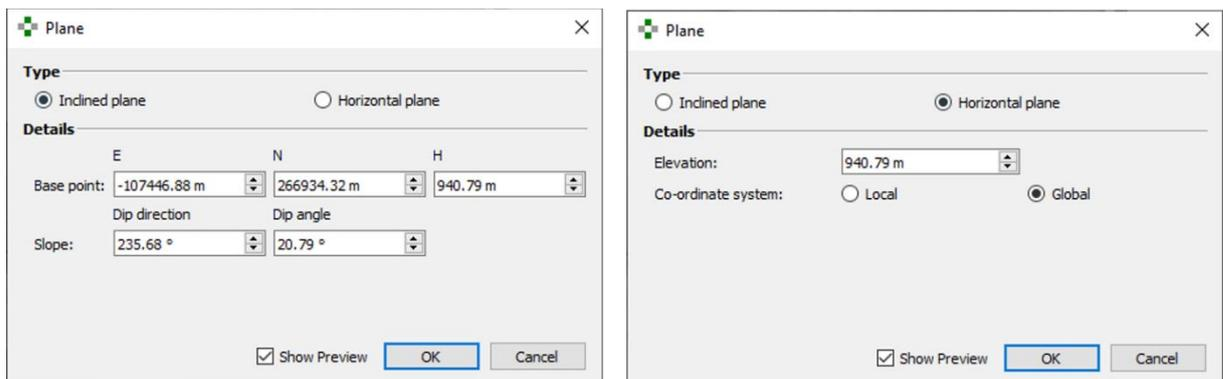

Figure 15: Positioning of the Reference Plane
2. Enter values for positioning the Reference Plane in the appearing dialog (see Figure 15):